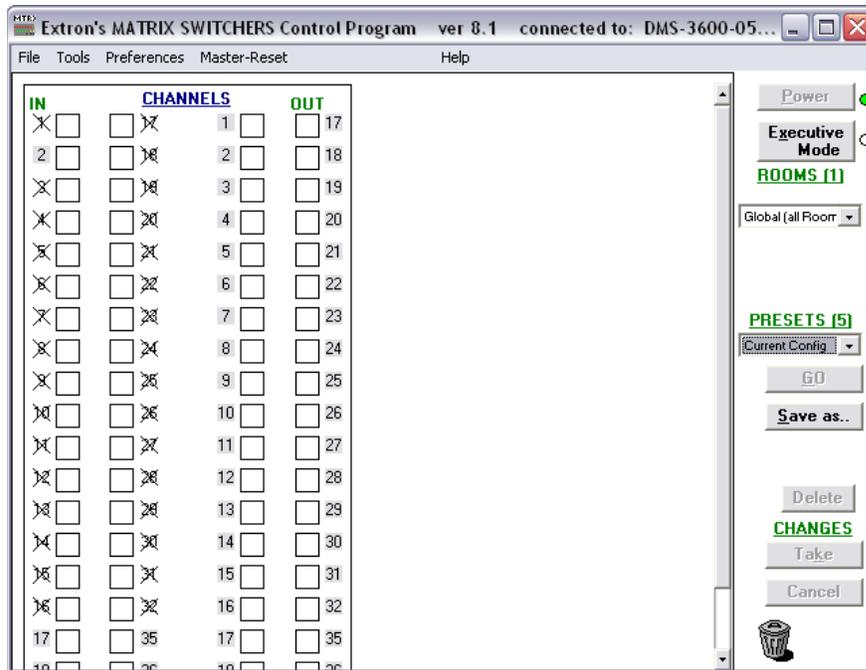
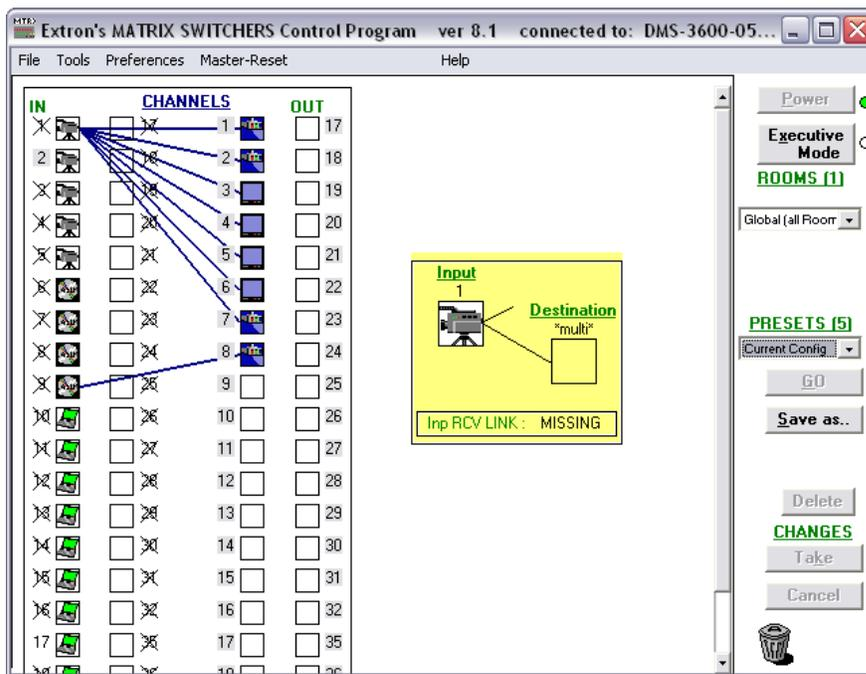

Figure 38. Extron Matrix Switchers Control Program Window
Figure 39. Sample Control Program Window, with Ties and Icons
- Click **OK**. The Extron Matrix Switchers Control Program window (see figure 38 and figure 39 on page 67) opens, displaying the current configuration of the attached matrix. Proceed to Using the program on the next page.
If you logged on with the administrator password, the program connects you to the matrix switcher with all of the administrator rights and privileges. The Extron **Matrix Switchers Control Program** window (see **figure 38** and **figure 39** on the next page) opens, displaying the current configuration of the attached matrix. Proceed to “Using the program,” below.
- For quick display of information on a specific input or output device, position the pointer tool over that device in the control program window. The program opens a pop-up that details the connections to that device and the signal status (present or missing) input from or output to that device (see the inset box in figure 39).